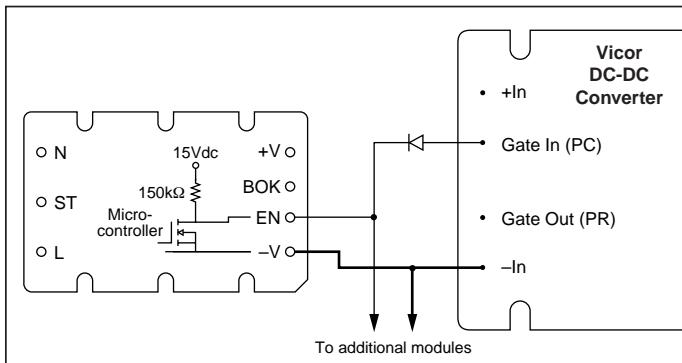

Figure 9—Enable (EN) function; See Fig. 8 for details
Enable (EN) Pin. (See Fig. 9). The Enable pin must be connected to the Gate-In or PC pin of all converter modules to disable the converters during power-up. Otherwise, the converters would attempt to start while the holdup capacitors were being charged through an unbypassed thermistor, preventing the bus voltage from reaching the thermistor bypass threshold thus disabling the power supply. The Enable output (the drain of an N channel MOSFET) is internally pulled up to 15V through a $150\text{k}\Omega$ resistor.